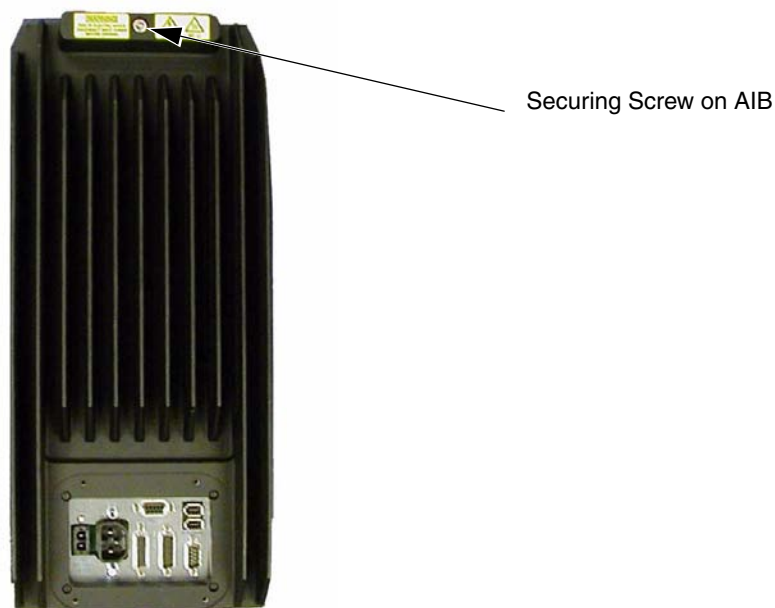

Figure 8-1. Securing Screw on AIB Chassis
9. Once the chassis is in place, use a 5 mm Allen key to tighten the chassis securing screw. See **Figure 8-1 on page 100**.